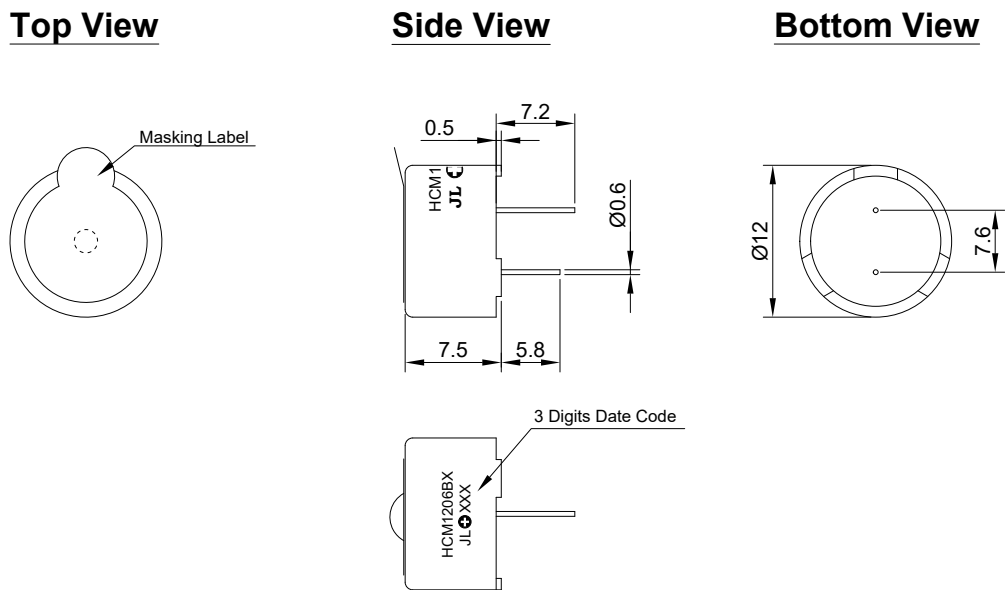

Figure 3. HCM1206BX Mechanical Layout
4.3.1. Layout and Dimension	: See Section 6, Figure 3